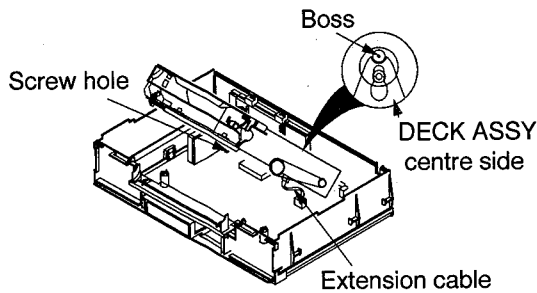

Fig. 1
- 1 Remove the four Top Cover fastening screws (a), (b), (c) and (d) shown in Fig. 1 and remove the Top Cover in the direction shown by the arrow.
- 3 Unfasten the seven catches (e) ~ (k) shown in Fig. 1 and remove the Front Panel in the direction shown by the arrows.
- 4 Disconnect connector MK shown in Fig. 1.
2. Place the DECK ASSY on the Base Chassis so that the centre of the rear side aligns with the boss and that the rear side of the supply side aligns with the screw hole as shown in Fig. 1. Raise the front side of the DECK ASSY and hold it with a support.